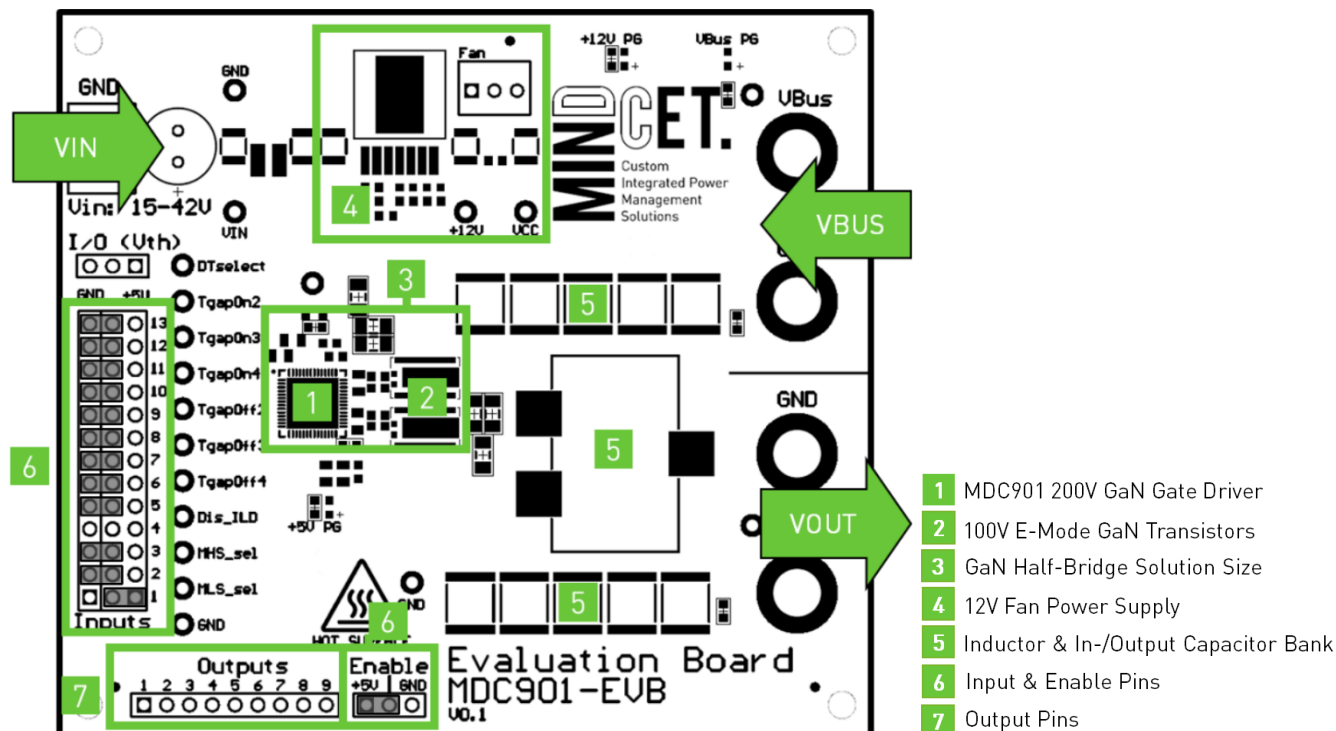

Figure 3: EVB layout description based, labeled by key aspects (gray boxes are the default jumper positions)
The EVB is separated into blocks for description purposes, as displayed in Figure 3.
The default jumper positions are demonstrated in the EVK lid diagram with gray boxes and in Figure 3. For more information on the pin functions, refer to the MDC901 datasheet.
4. Plug fan connector into the fan socket on PCB front side (Figure 3, block 4) to power the fan.